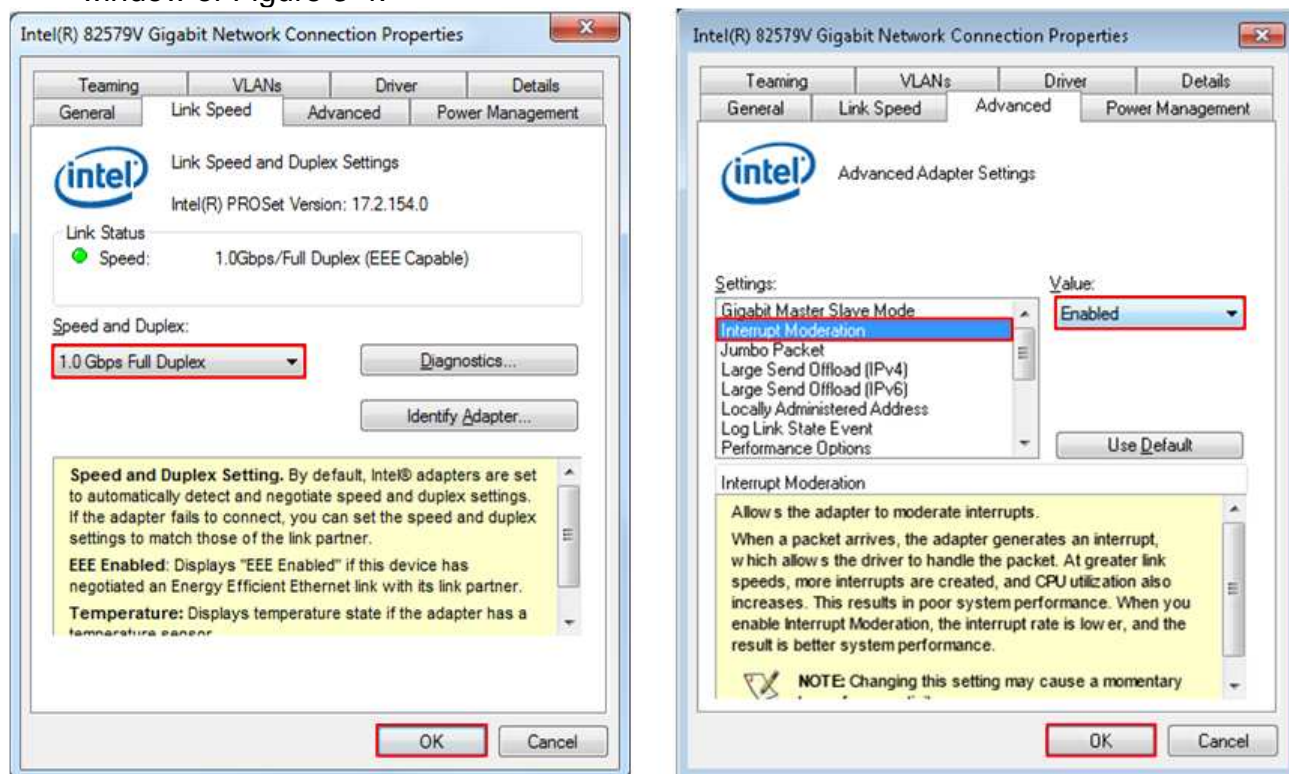

Figure 3-4 Link speed and Jumbo frame setup
- On Link Speed tab, select “1.0 Gbps Full Duplex” for running Gigabit transfer test, as shown in left window of Figure 3-4.
- On Advance tab, Settings=Interrupt Moderation and Value= “Enabled”, as shown in right window of Figure 3-4.